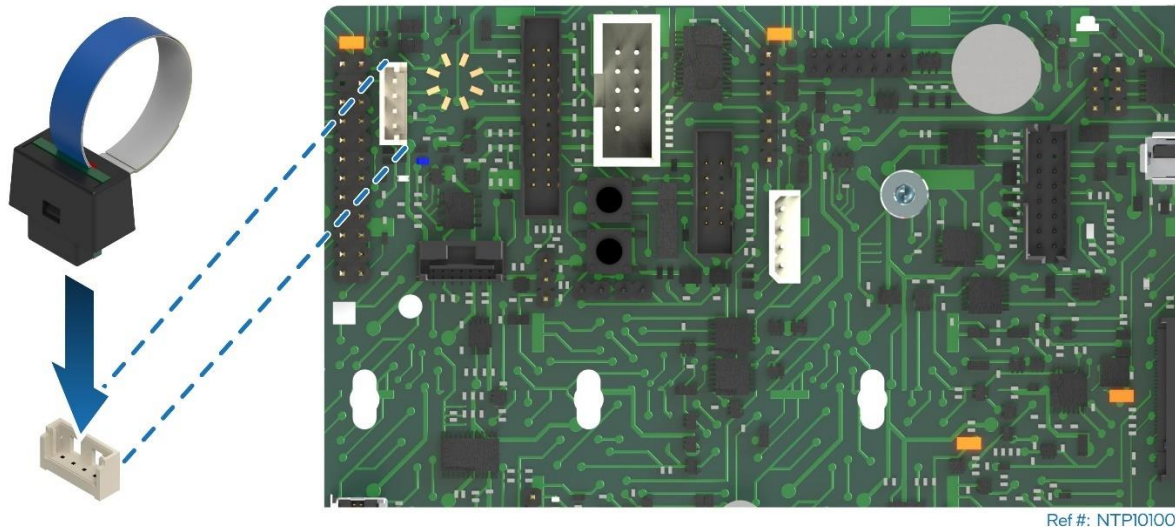

Figure 46. Intel® VROC Key Installation
7. Install the Intel® VROC Key onto the server board (see Figure 46).